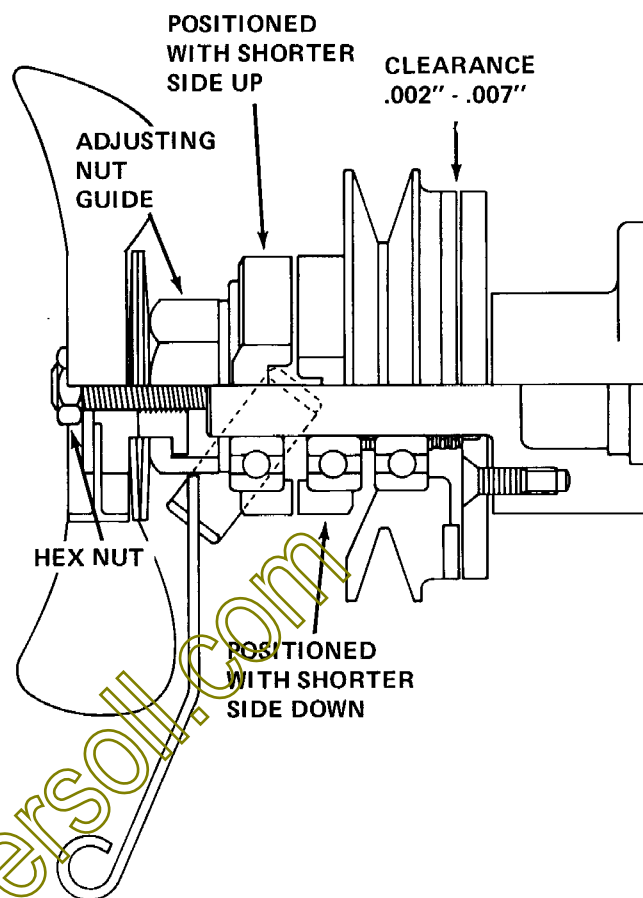

FIGURE 1
- a. Connect the drive hub (2) to the engine flywheel with original four cap screws (22) and new 3/8" lockwashers (23).
- b. Secure the screen (21) and clutch plate (3) to the drive hub (2) with original machine screws (4) and new lockwashers (5). Tighten the machine screws securely.
2. All 446 clutches only: Secure the drive hub (2A) to the flywheel with original machine screws (4) and new lockwashers (5). Tighten the machine screws securely.
3. Fit two springs (6) together and place on drive hub. Install .050" spacer (10) then match two more springs and install. Place second .050" spacer on hub and install the last two springs and .050" spacer for a total of six springs and three spacers.
4. Place disc pulley and bearing assembly (7) on clutch hub with disc facing backing plate (3). If disc is not bonded to pulley, make sure disc remains on pulley shoulder during assembly procedure.
5. Place three .050" spacers (10) on hub.
6. Place rear cam (19) on drive hub (2) or (2A) so that notch faces out and front cam (11) with notches facing in.
7. Rotate the cams until the lever notches are misaligned as shown in Figure 1. The rear cam on drive hub must be positioned so the shorter side is downward and the front cam must have the shorter side upward.
9. Position spacer (19) on hub (2).
10. Thread adjusting nut and guide (14) and (18) on hub. Guide (18) should be against spacer (19). Nut (14) should protrude through guide (18) enough to hold rear spring (12).
11. Front spring (12) should pilot on spacer (13).